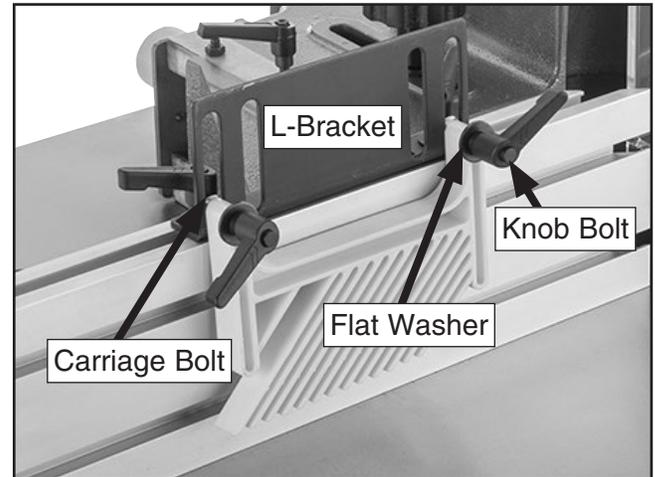

Figure 21. L-bracket and securing hardware.
1. Remove hardware securing featherboard to bracket (see **Figure 21**).